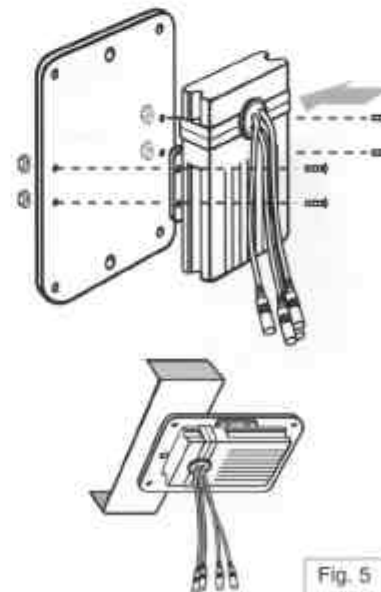

Fig. 5
5. Mount the Control Box in a protected area free from extreme vibration or moisture. You can use the included brackets or double-sided tape. [Fig. 9]. If the position for Control Box is unsuitable for mounting, use the Control Box Bracket **Optional** (See the Fig. 5 for Option)